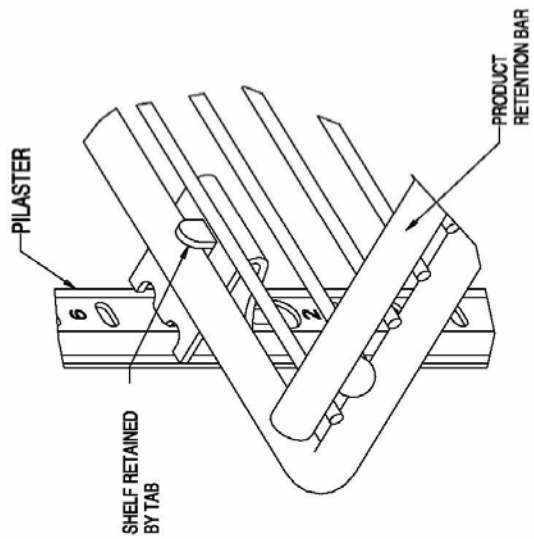

Figure 1
d. Shelves: Included are three epoxy coated wire shelves per door opening (5 per door in MM series and 3 per door in HB series). Shelf spacing is adjustable with enclosed shelf supports to suit requirements. (Figure 1.)